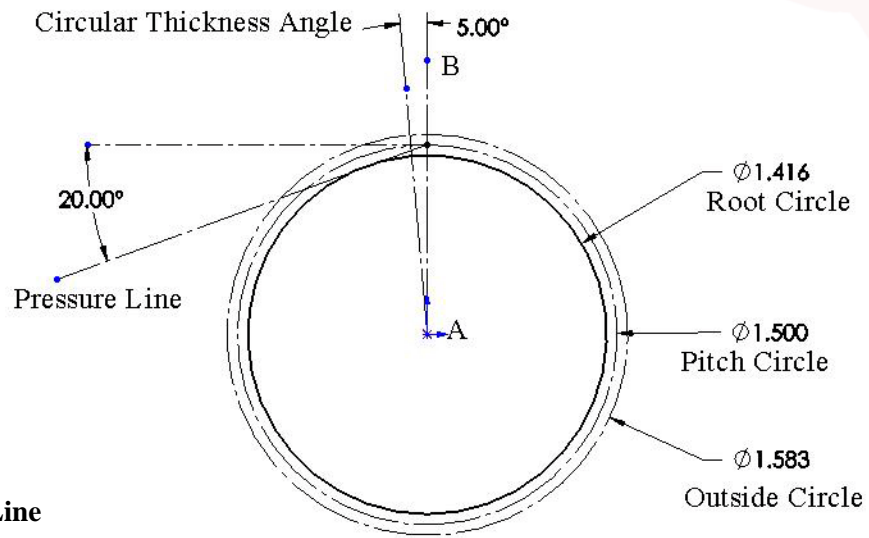

Fig.3 The Pressure Line
7. Create a line that bisects the circular thickness angle. This line should intersect or extend beyond the outside circle as shown in figure 3 below.